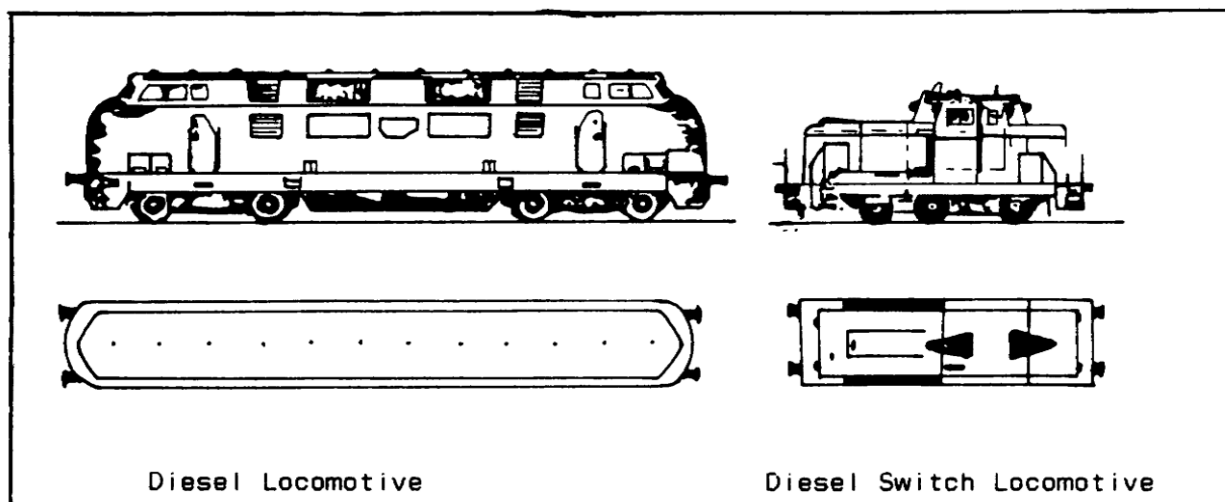

Figure 1-30. Diesel Locomotives.
(3) Diesel locomotives are identified by their streamlined appearance. Lengths vary from switch engines 24 to 30ft long to the mainline passenger and freight engines of 35 to 50ft in length (Figure 1-30). Locomotives longer than 50ft are used for special purposes, such as crossing steep, mountainous terrain.